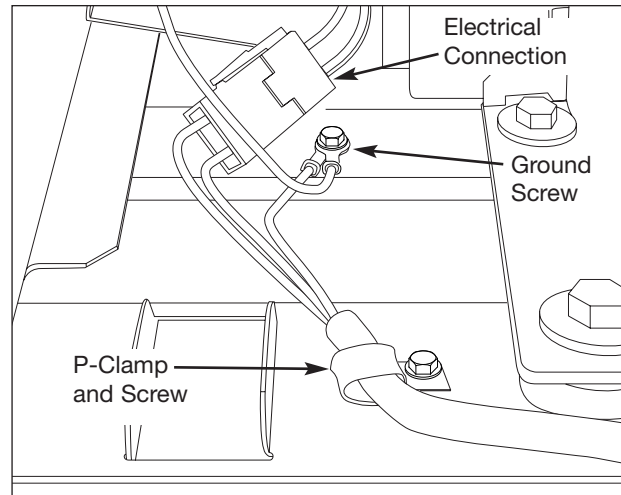

Figure 5-24. Power Cord Removal
3. Using a 1/4" socket or wrench, extract the screw securing the P-clamp to the compressor mounting plate. (See Figure 5-24)